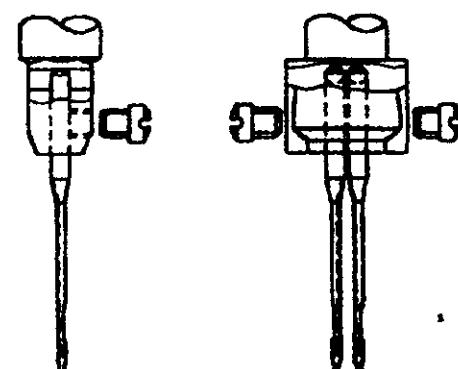

Fig. 1
5. How to Attach Needle (Fig. 1):